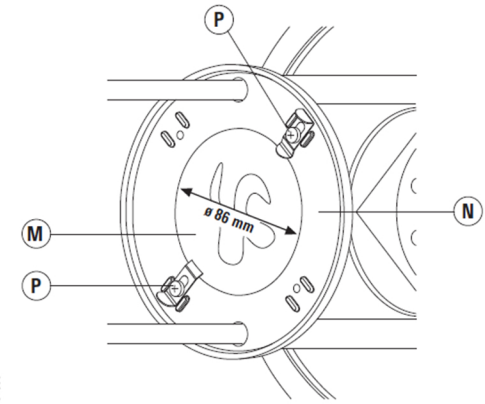

Fig. 5
-Gobo Projector [GP] - Fig. 5:
-Zoom Projector [ZP] - Fig. 5: